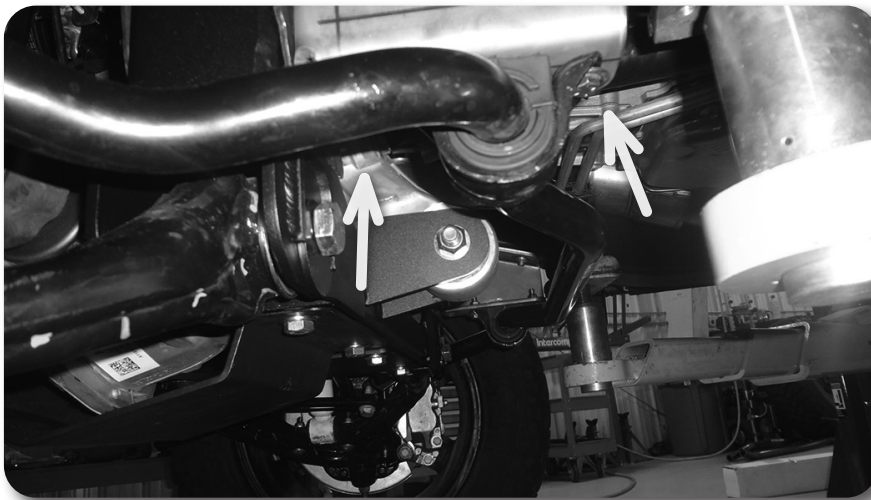

Figure 47
71. Attach the front sway bar to the sway bar drop bracket with the provided 3/8" bolts, prevailing torque nuts, and washers Fig. 47. Attach the sway bar link to the front control arms. Torque the sway bar drop hardware to 44 ft-lbs. Torque the sway bar link hardware to 74 ft-lbs